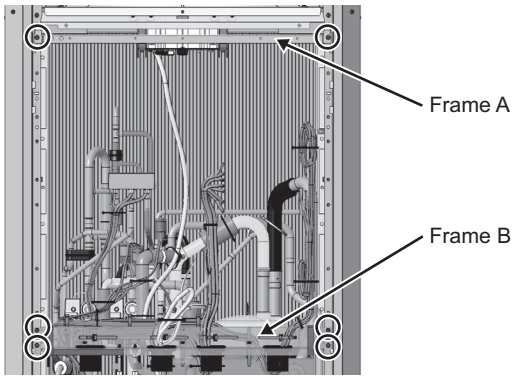

Fig. 27
(4) Remove the wires that are secured to frame B and remove frames A and B. (Six screws: Fig. 27)